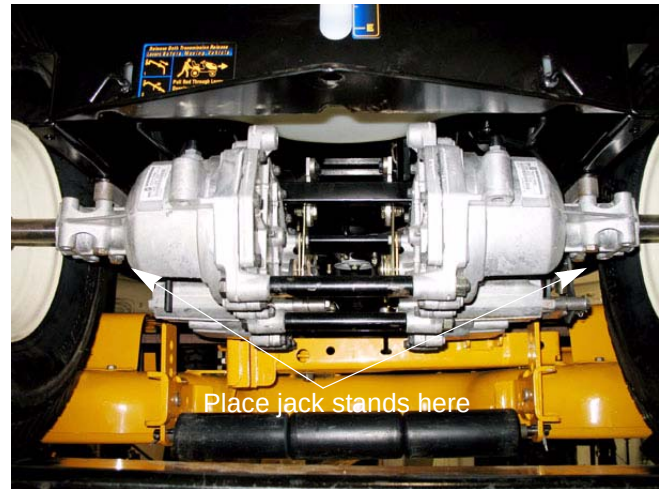

Figure 3.2
2. Jack up the rear of the tractor and place on jack stands. See Figure 3.2.